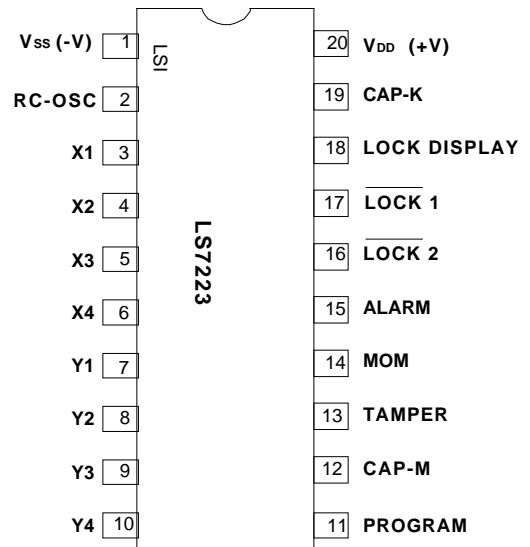

FIGURE 1
- LS7223 (DIP); LS7223-S (SOIC) - See Figure 1